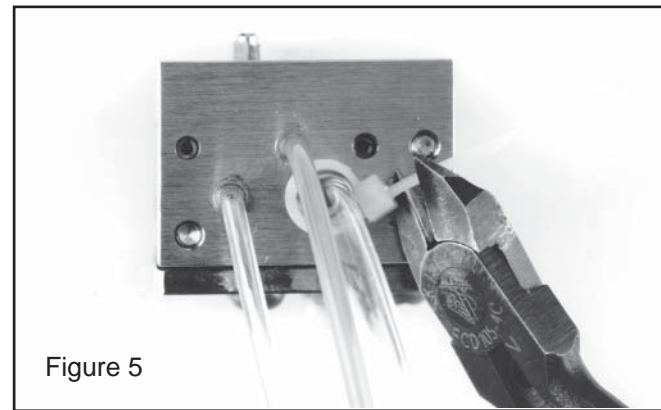

Figure 5
- 2) Slip drive air (larger clear), chip/assist air (smaller clear) and water (blue) tubing on their respective dental unit barbs as far as possible. **Figure 5**. If barbs are unmarked, turn on dental unit water switch and depress foot control to identify water barb.
- 3) Secure each tubing on its respective barb with 3-3/4 inch cable ties. **Figure 5**. Tighten with needle nose pliers and clip off excess cable ties.